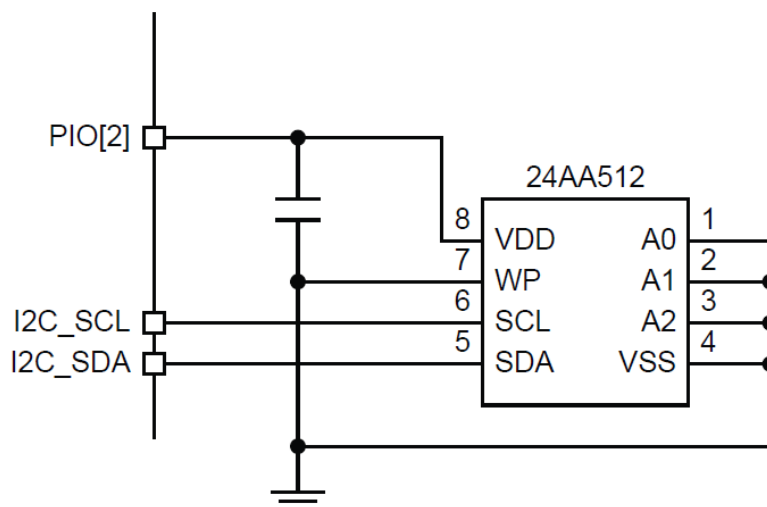

Figure 4.3: Example of I2C – EEPROM connection [1]
The I2C interface communicates to EEPROM, external peripherals or sensors. An external EEPROM connection can hold the program code externally to the CSR1000 QFN. Figure 4.3 shows an example of an EEPROM connected to the I2C interface where I2C \_SCL, I2C \_SDA and PIO[2] are connected to the external EEPROM. The PIO[2] pin supplies the power to the EEPROM supply pin, e.g. VDD.
- Figure 4.3: Example of I2C – EEPROM connection